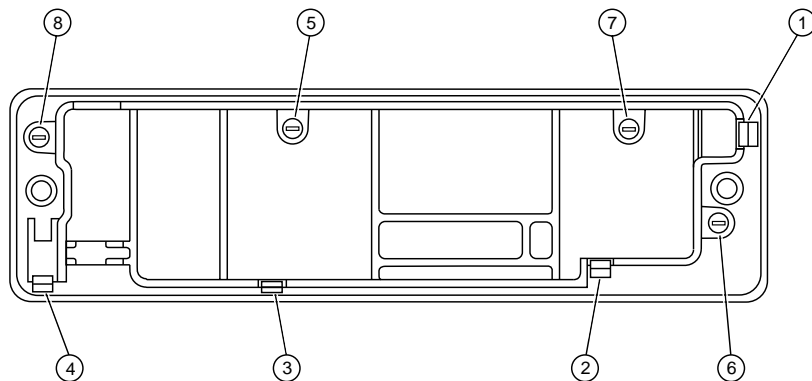

Figure 8-1. Model W4 Rotary Control Head Assembly Screw and Snap Sequence
- Model W4: four screws [callouts 5-8], as shown in Figure 8-1.
The Model W4 has, in addition to the screws, four snap features [callouts 1-4], which are shown in Figure 8-1.